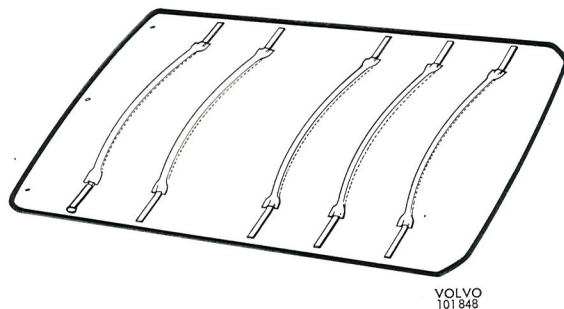

Fig. 8-62. Headling, 142 and 144
5. Install the stretchers in the new headlining. Make sure that they are provided with rubber caps at the ends as shown in Fig. 8-62.